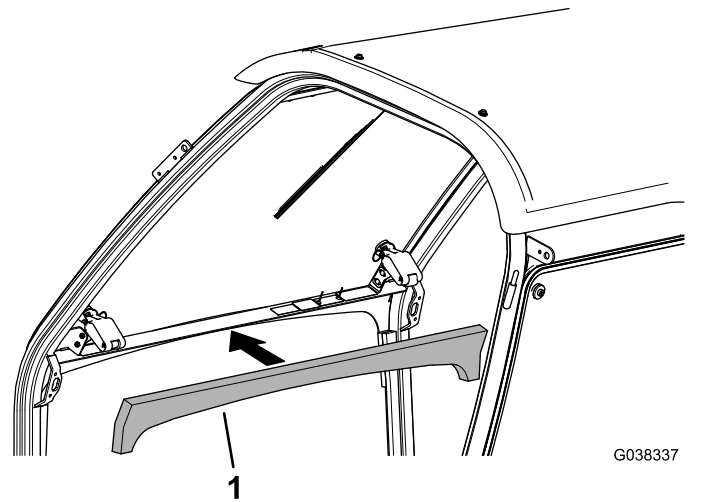

Figure 10
4. Install the front sealing foam if it is not already installed (Figure 10).